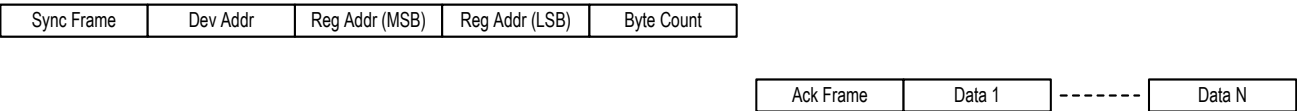

Figure 62. UART Read Protocol Format
The UART read protocol consists of 5 bytes (Figure 62). The LSB of the device address frame is 1. The addressed device responds with an Ack frame followed by one or more data bytes if no errors are detected, and the transmission is valid. The byte count indicates the number of data bytes to be read (N). This must be a non-zero number.